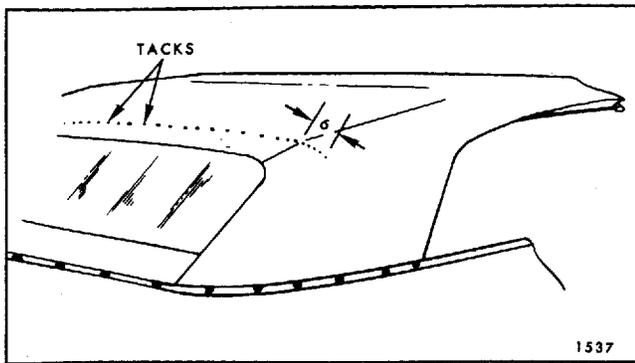

Fig. 6-27—Tacking Outboard Of Seams
**IMPORTANT:** Tacks must be installed along a straight line in center of rear bow. (See Fig. 6-27). Tacks outboard of deck seams should be restricted to distance not to exceed 6", which is
length wire-on binding extends past seam (Fig. 6-27).